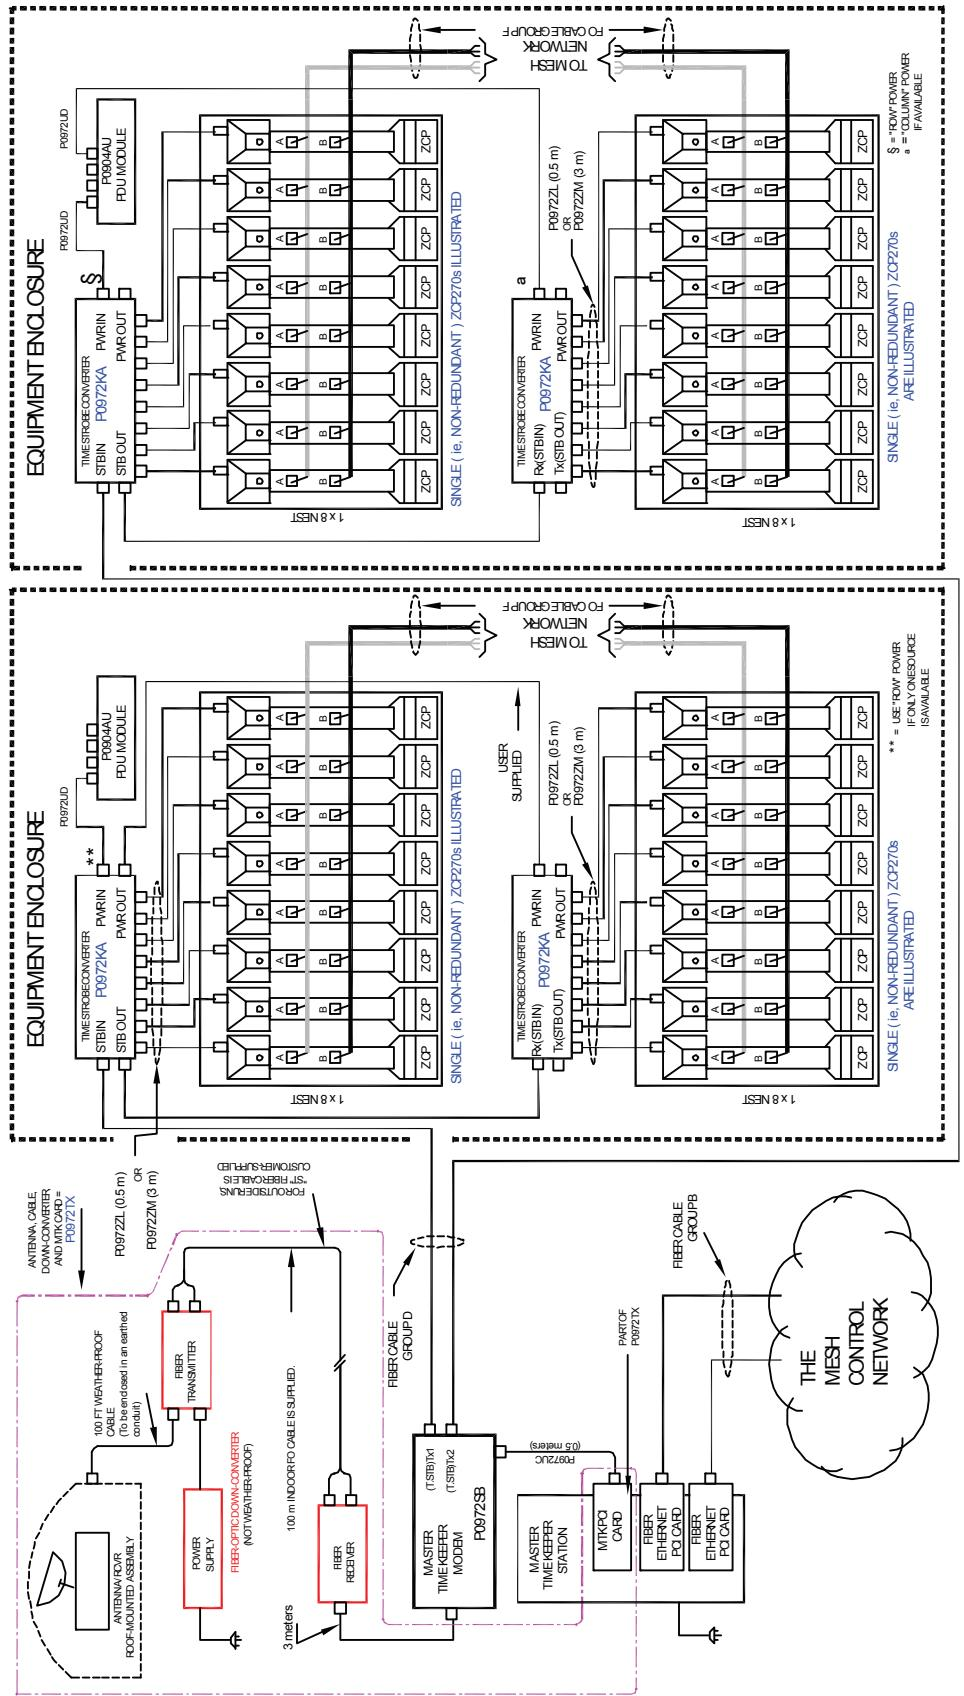

Figure A-8. ZCP270 with Fiber Antenna Connection, Non-redundant Cabling
- ◆ Extended Time Strobe Network - ZCP270 with Fiber Antenna Connection, Non-redundant Cabling (Figure A-8)